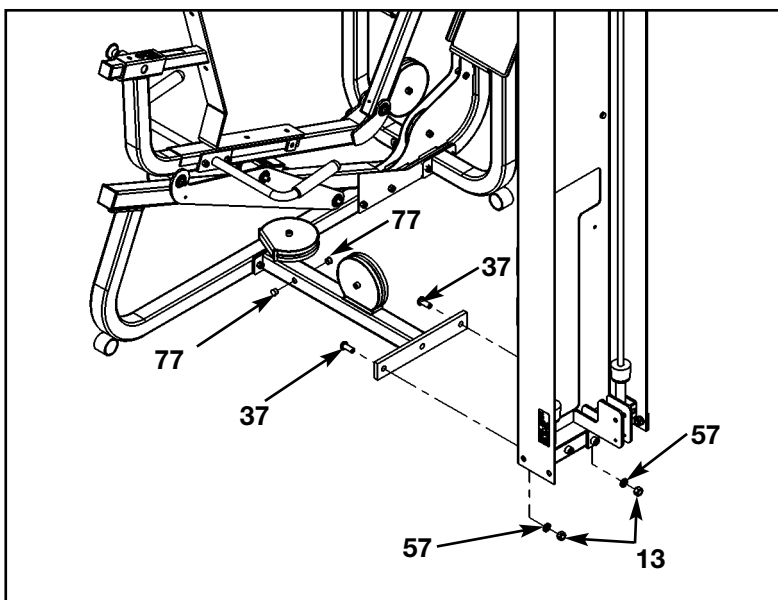
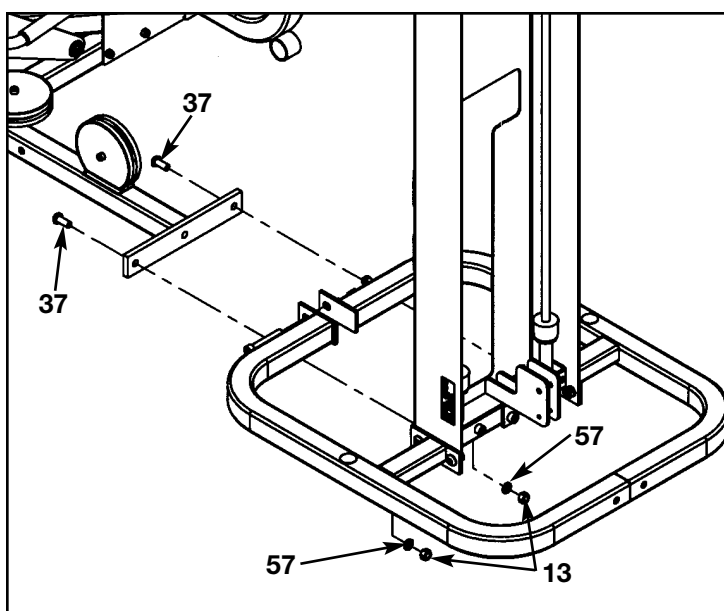

Figure 12
Figure 13A
- D.** Install the Leg Press Assembly to the column. See Figure 12 for Modular/Tandem configurations and Figures 13A and 13B for Free Standing configuration.
- E.** Install hole plugs (#77) to the Leg Press Assembly (Modular/Tandem configurations only). See Figure 12.